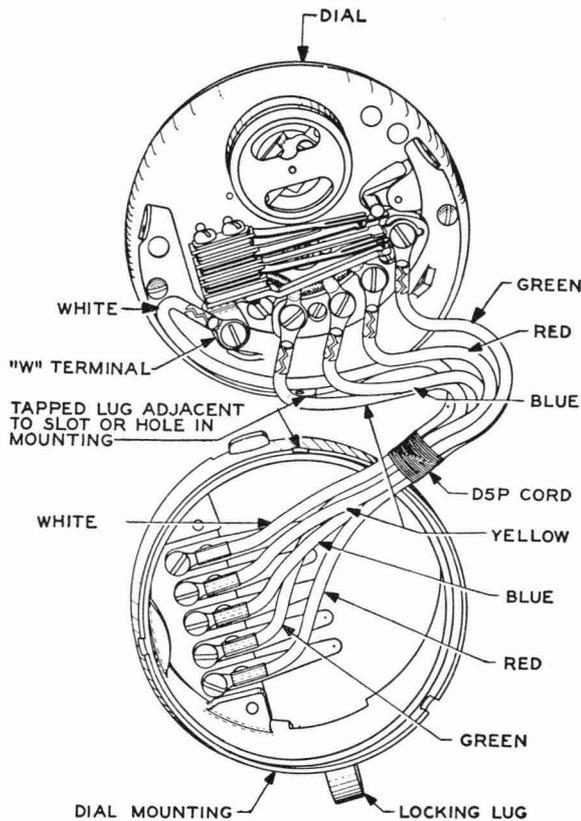
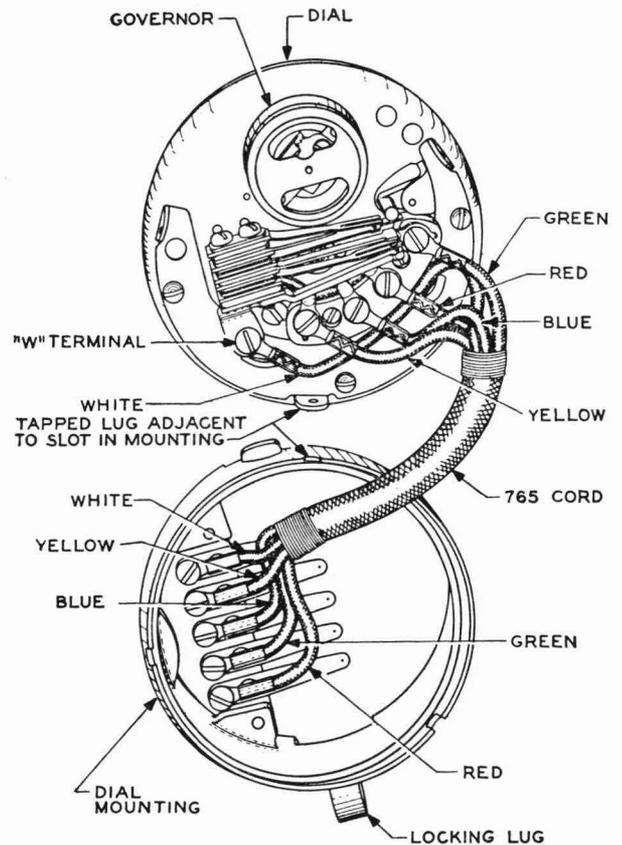

Fig. 4—Method of Cording Dial Mountings and Dials Having Their W Terminal as Part of the Contact Spring Assembly, Using D5P Cords
Fig. 5—Method of Cording Dial Mountings and Dials Having the W Terminal as Part of the Contact Spring Assembly, Using No. 765 and Similar Cords
5.01 **Dials Having the W Terminal as Part of the Contact Spring Assembly (See Fig. 4):** After gaining access to the terminals as outlined in 3.01 and 3.02, remove the old cord by loosening the cord tip mounting screws, using the screwdriver. The dial end of the cord is that end not having insulating sleeves. Working from the green terminal, connect the leads to their proper terminals, matching the color of the leads (or the tracers in the leads in certain type cords) with the lettered abbreviations on the dial adapter, Y indicating yellow or yellow tracer, B indicating blue or blue tracer, etc. Run the white lead or the lead with the white tracer under the other leads to prevent snagging the lead on the contact springs of the dial. Where the No. 765 cord is used, run the white lead inside of the V-shaped embossing in the dial adapter as shown in Fig. 5. Angle the leads about as shown in Fig. 4 or 5, depending on the type of dial cord used. Set the cord tips so that the leads are approximately parallel and do not cross each other. Tighten the cord tip mounting screws firmly.
5.04 Place the dial mounting in front of the dial as shown in Fig. 4 so that the tapped lug in the dial adapter nearest the Y terminal is adjacent to the slot or hole in the dial mounting which is about opposite the locking lug. Cord the dial mounting as shown in Fig. 4, connecting the leads to their proper terminals, matching the leads with the lettered abbreviations on the dial mounting, as indicated in 5.01. Cord the dial
5.05 **Dials Having D5P Cords:** After the cord has been firmly connected to the dial and dial mounting and with the dial and dial mounting placed adjacent to each other as described in 5.04 and illustrated in Fig. 4, fold the dial mounting over the dial, using the tapped lug in the adapter nearest the Y terminal of the dial as a pivot. While doing this, position the coiled part of the leads, particularly the white and yellow leads, so that they will not be clamped against the dial by the dial mounting. When the dial and dial mounting are assembled in this way, the individual leads of the cord should form a spiral which clears the contact springs of the dial. Be sure that the cord tips do not touch each other or the dial and dial mounting.
5.06 **Dials Having No. 765 and Similar Cords:** After the cord has been firmly attached to the dial and dial mounting, hold the dial mounting with the locking lug at the top so that the dial dangles by the cord. Turn the dial so that the terminals face you, if the dial has not already assumed that position, and then raise the dial to a horizontal position with the terminals to the rear. Then raise the dial so that the dial adapter lug nearest the Y terminal on the dial is adjacent to that slot or hole in the dial mounting which is opposite the locking lug on the mounting, as shown in Fig. 5. Then fold the dial into the dial mounting, using the tapped lug in the